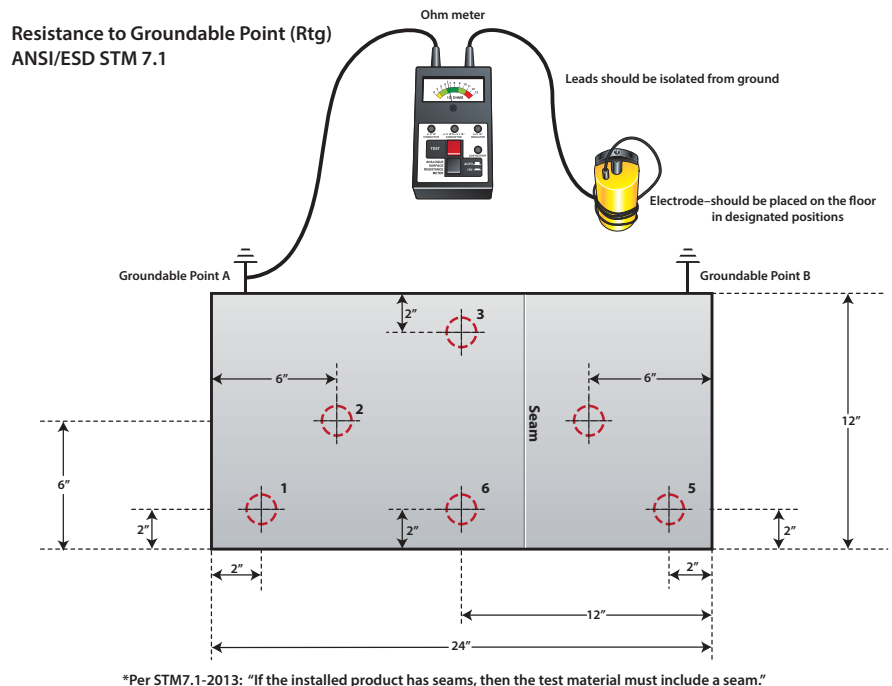

Figure 3: Using the test leads and one 5 pound electrode to measure RTG
5. Set the Test Voltage Button to AUTO. Press and hold the the TEST button until the measurement is displayed (see Figure 3).